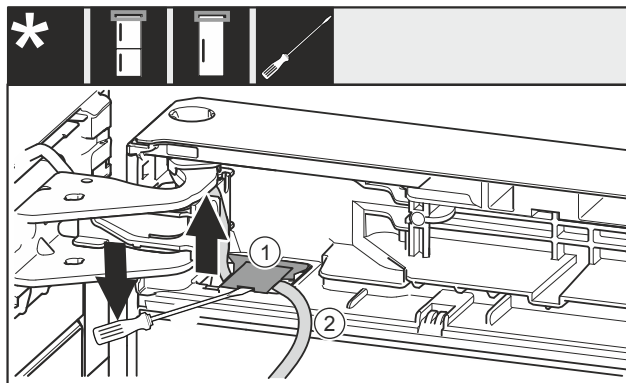

Fig. 24
- ▶ Use the screwdriver to lift up the cover *Fig. 24 (1)* and pull it out.
- ▶ Pull out the cable *Fig. 24 (2)*.